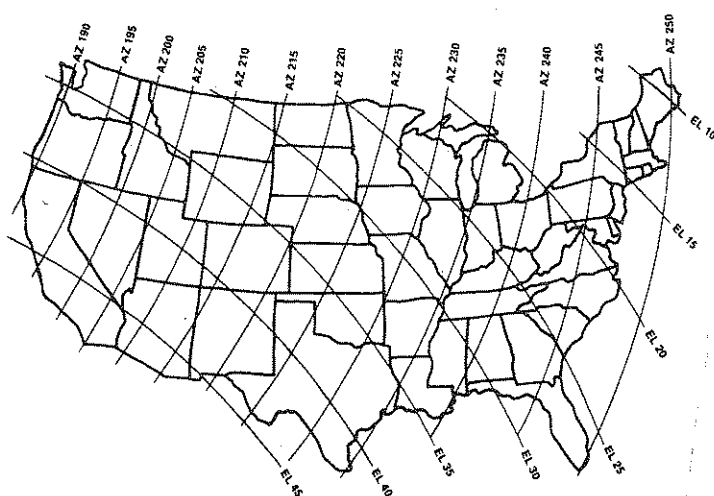

FIGURE 19
STEP 1. Adjust actuator to move antenna towards Satcom F3. Use framing square as shown in Figure 18 to check elevation angle while making this adjustment. Check elevation angle after each adjustment. Be sure to keep long leg of framing square perpendicular (vertical) when checking elevation angle. (See Figure 19 for elevation angles).
NOTE: Elevation angles are given to Satcom F3 in Figure 19. Try to estimate angle to nearest degree. Exact Print-outs of elevation angles of all satellites for your area are available on request from the Winegard Company. If requested, we must know the latitude & longitude of your location. Your local airport or surveyor can give you this information.